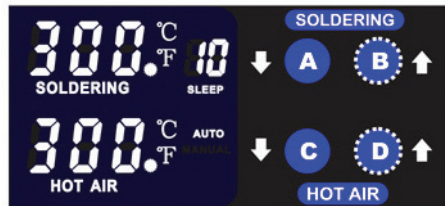

Figure 2
1. Press and hold both buttons labeled B and D in figure 2 for four seconds.